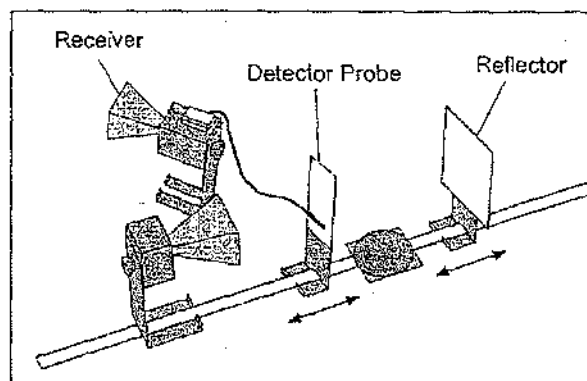

Figure 3.1 Equipment Setup
- ① Arrange the equipment as shown in Figure 3.1.
- ② Plug the Detector Probe into the side connector on the Receiver. Face the Receiver horn directly away from the Transmitter so that none of the microwave signal enters the horn. Adjust the Receiver controls as needed to get a strong meter reading.
- ③ Slide the Probe along the Goniometer arm (no more than a centimeter or two) until the meter shows a maximum reading. Then slide the Reflector (again, no more than a centimeter or two) to find a maximum meter reading. Continue making slight adjustments to the Probe and Reflector positions until the meter reading is as high as possible.
- ④ Now find a node of the standing wave pattern by adjusting the Probe until the meter reading is a minimum. Record the Probe Position along the metric scale on the Goniometer arm.